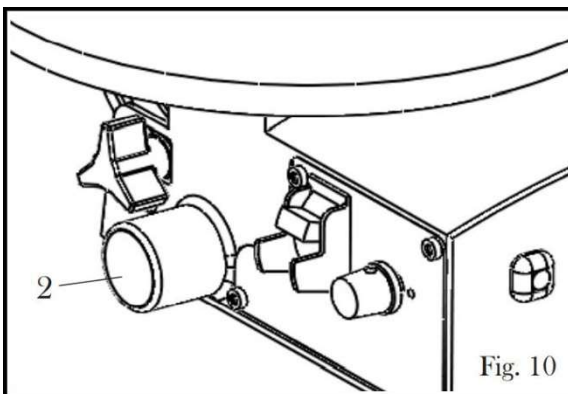

Figure 10
The CX126 Variable Speed Scroll Saw allows for a hose or vacuum to be connected directly to the dust chute (2). If excessive sawdust builds up in the body of the scroll saw use a shop vac to manually remove the dust. To do this you will have to undo and remove the screws (3) and metal plate located on the left side of the scroll saw. After dust has been cleared reattach metal plate with screws (3). See figure 10 and 11.